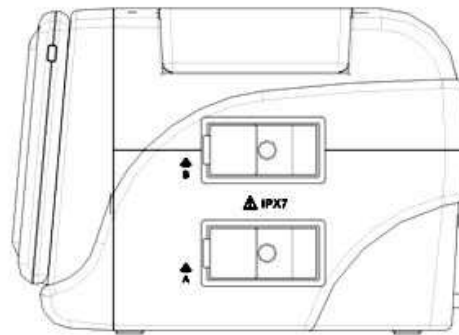

Figure 4-2. Probe socket sketch
3. Connection of 96-core connector. First, switch the locker on the probe connector to "OPEN", position the connector localization pin with the hole on the socket, then plug in the connector and switch the locker to "LOCK". When the locker is moved to "OPEN", unplug the connector to remove the probe from the main unit. (see figure 4-2).